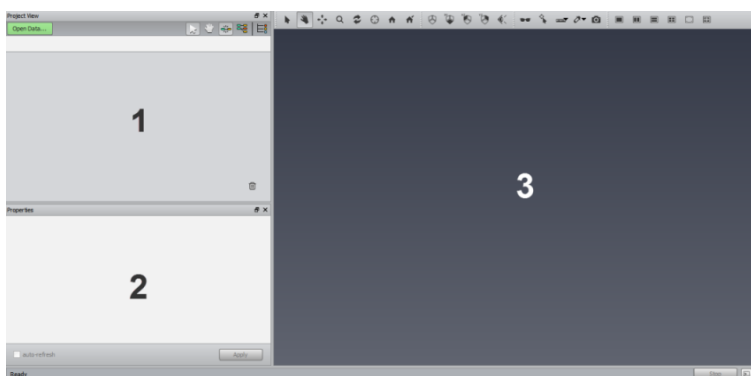

Figure 20.59: Amira user interface
Amira user interface is divided into three major regions: The Project View (1) contains folders where data and modules will appear. The Properties area (2) displays interface elements (ports) associated with Amira objects. The 3D viewer window (3) displays visualization results (see Figure 20.59).